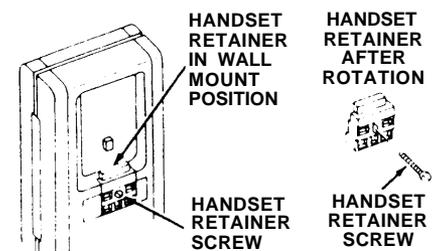

Figure 7
- Replace the handset retainer into upper housing. If properly inserted a portion of the handset retainer should be projecting into the handset well of the upper housing (see Figure 7).